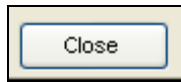

Figure 17.2.26
- Click on the **Close** button if you do not want to send this schedule to the controller (Figure 17.2.26).